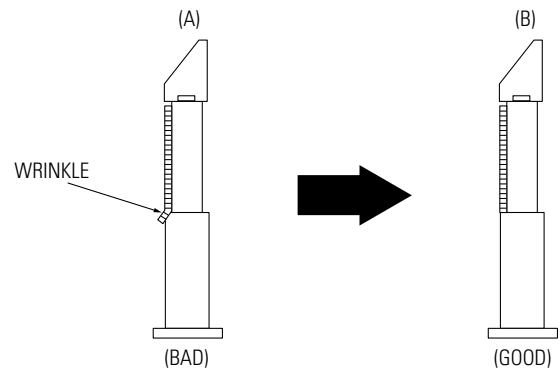

Fig. 4-8 Tape Guide Check
- 2) Confirm that there is no curl or wrinkle at the lower flange of tape guide as shown in Fig. 4-8 (B).
- 3) If a curl or wrinkle of the tape occurs, slightly turn the screw (A) tilt adjust on the ACE head ass'y.